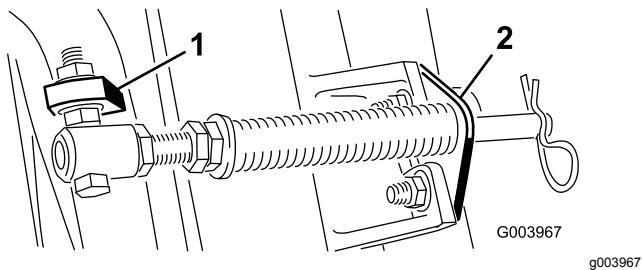

Figure 6
- C. Mount the spring-tube bolt to the opposite tab on the carrier frame and secure with the flange nut. The bolt head is to be positioned to the outer side of the tab as shown in Figure 6.
- D. Mount the rod bracket to the cutting-unit tabs with the carriage bolts and nuts (Figure 6).